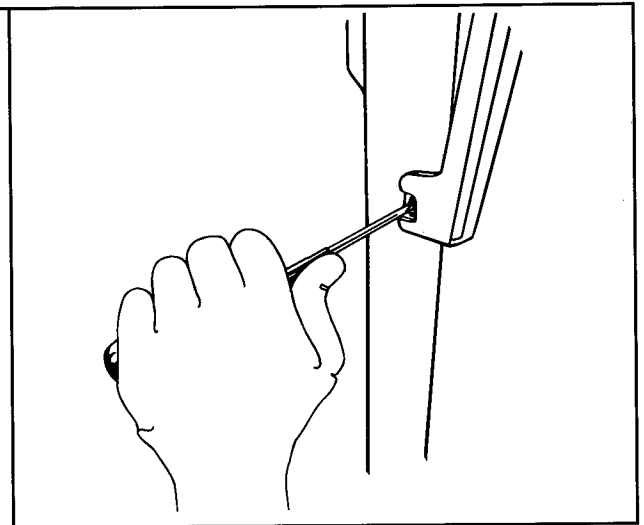

Figure 69
- b. Remove handle screws on top and bottom side of each handle on both doors. See Figures 69 and 70.